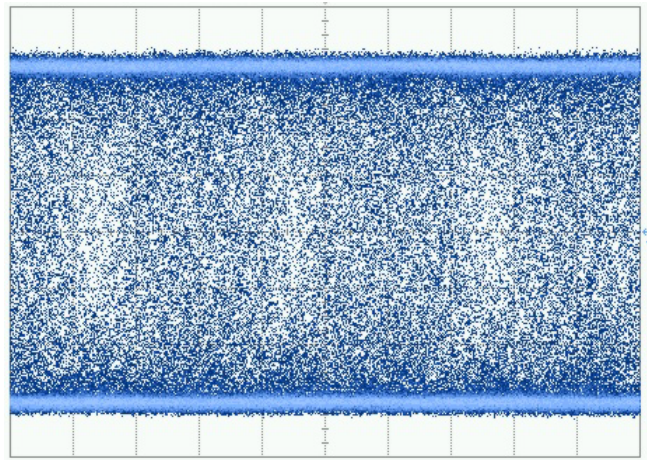

Figure 44. Spread spectrum clock waveform example
6. Press the softkey corresponding to the **SEL** label to accept the entry and return to the **Synthesizer Menu**. A waveform similar to the one shown in **Figure 44** should now be displayed on the high speed sampling scope.